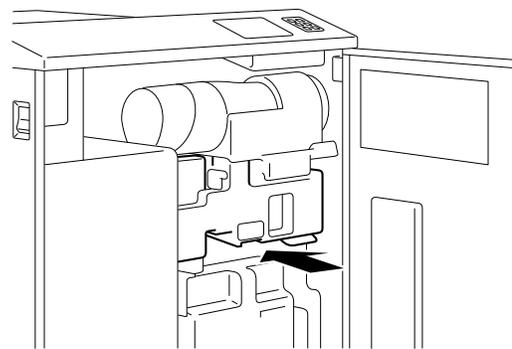

Figure 5-14
14. Slide the EP drawer closed, Figure 5-14.